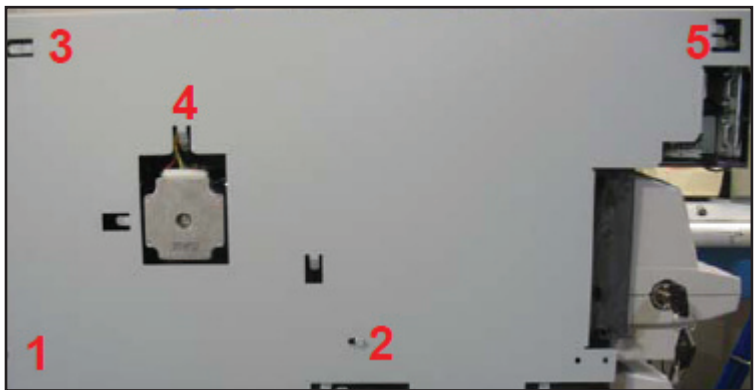

Figure 6
2. Loosen and remove screws holding side cover in place. With cover removed, disconnect ground wires, (see figure 6).